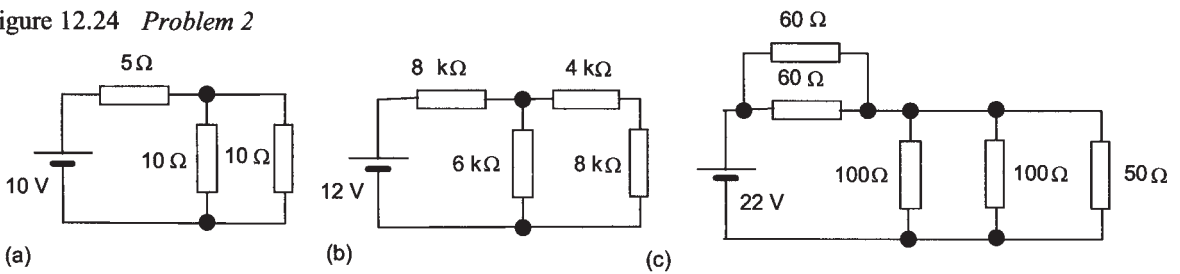

Figure 12.25 Problem 3
- 3 Determine, by simplifying the circuits, the current through and the voltage drop across each of the resistors in the series-parallel circuits shown in Figure 12.25.